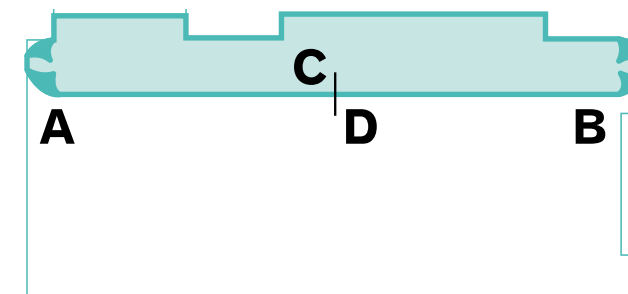

Figure 37 Lining up the first sheet
- > When satisfied that the fit on the first edge is correct, use a pencil to trace the opposite edge onto the subfloor (line A-B in fig. 37).
- > In the centre of the room, draw a line on both the sheet and subfloor square to the main axis of the sheet (line C-D in fig. 37).